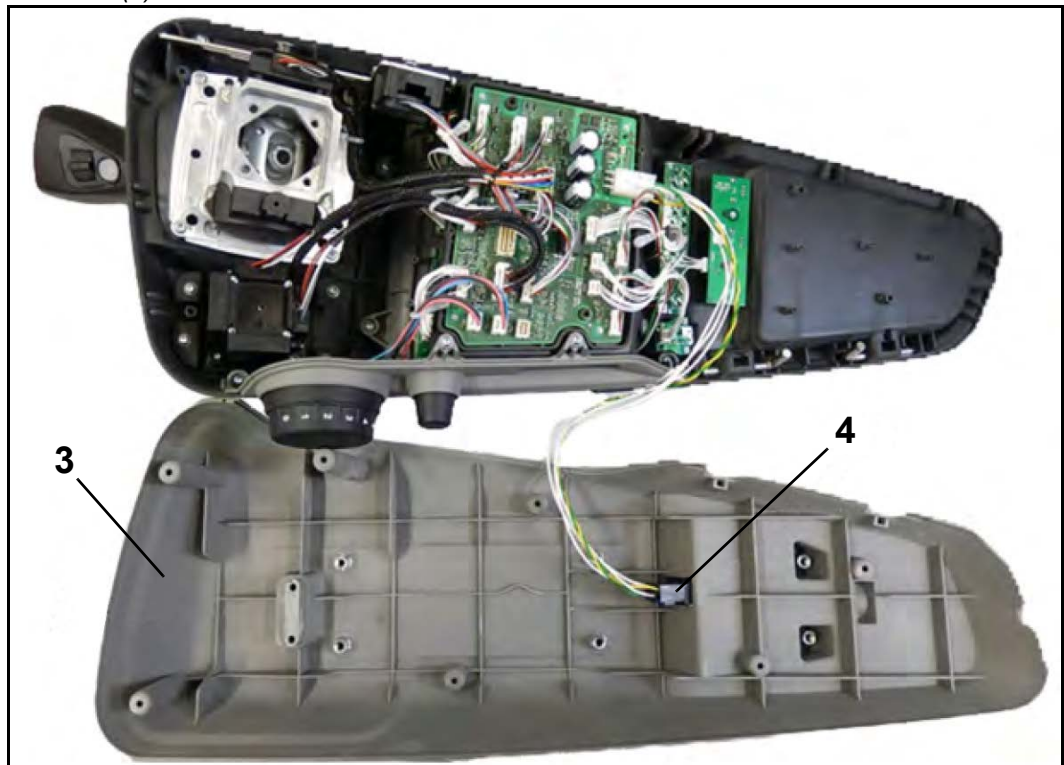

Figure 12
2. 2 x size 4 Allen screws (pos. 1, item number 870415) must be unscrewed from the lower shell.
3. 9 x TORX® T15 six-lobe screws (pos. 2, item number 870936) must be unscrewed from the lower shell.
4. Remove the lower shell and put it down next to the upper shell (Figure 12).
*The lower shell (3) is still connected to the upper shell via the main board CAN set of wires (4).*